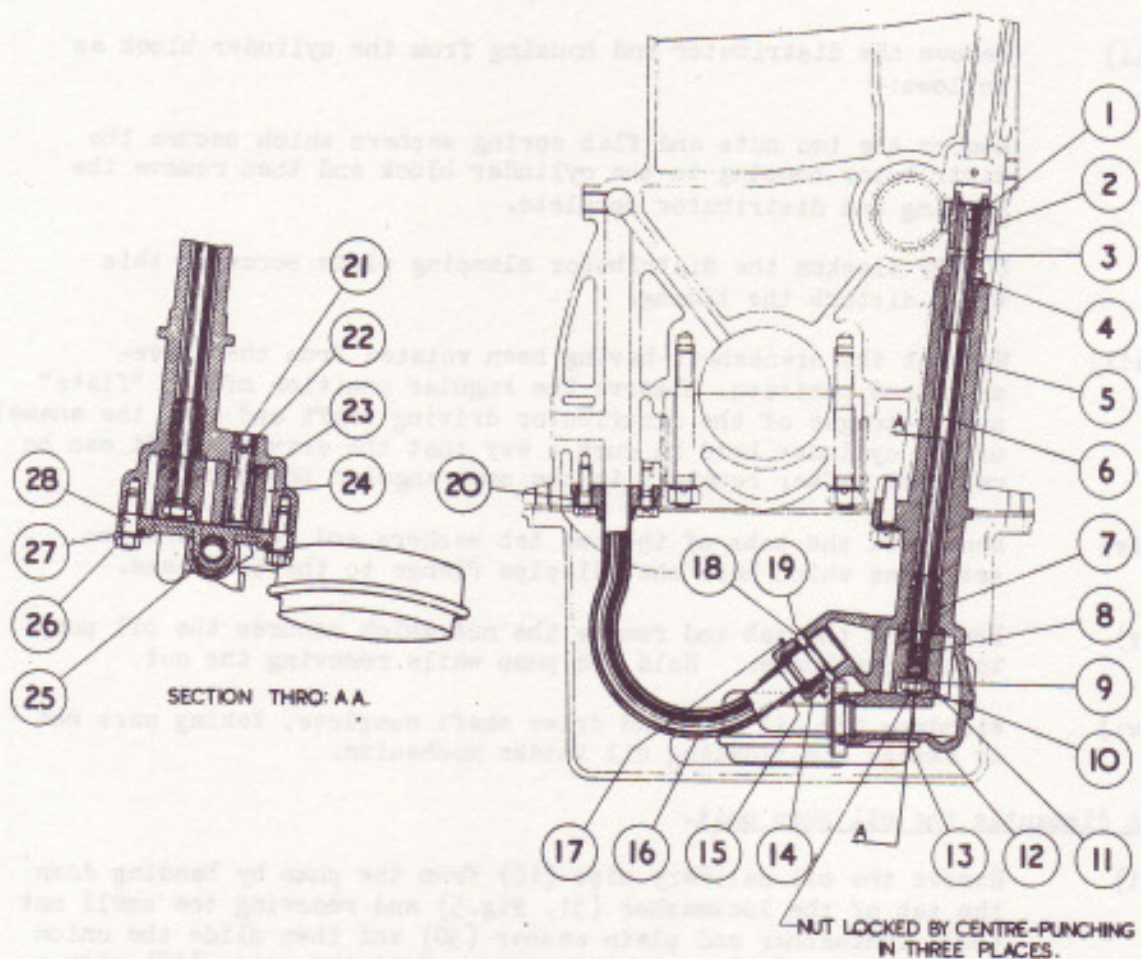
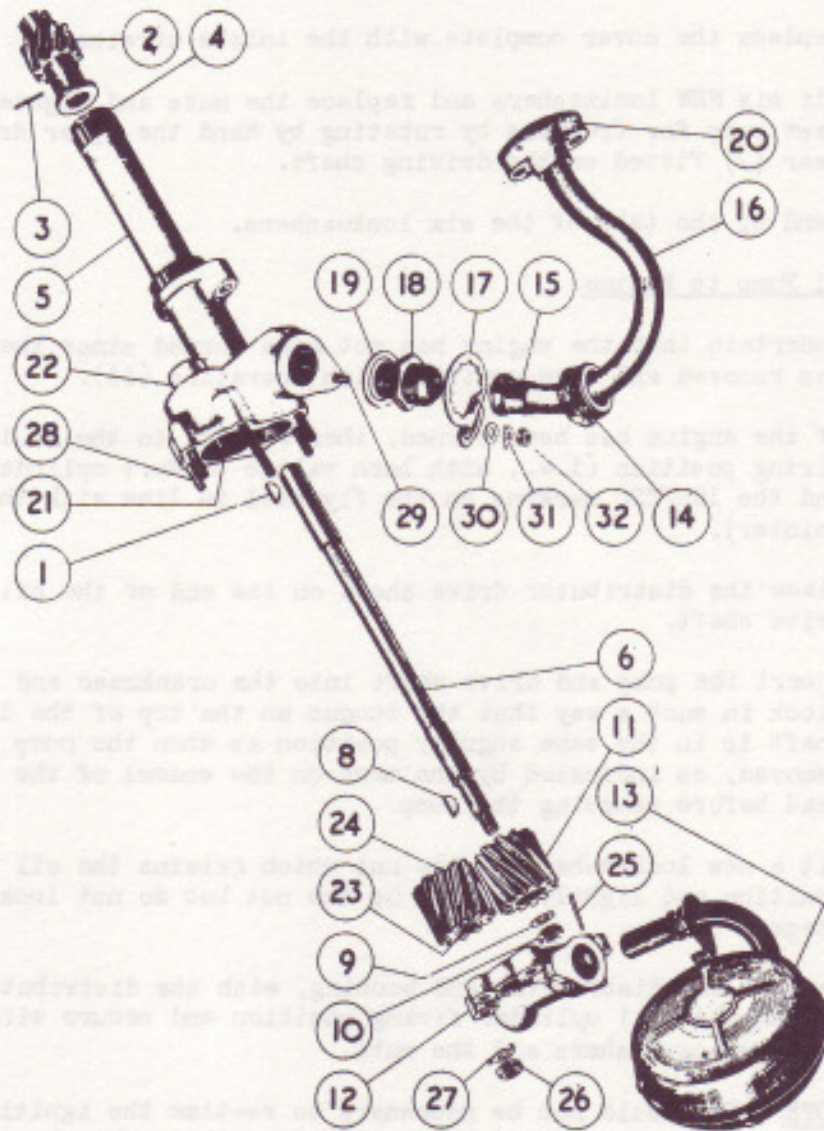

FIG. 4. SECTION THROUGH OIL PUMP AND DRIVE
FIG. 5. OIL PUMP AND DRIVE DISMANTLED.
A floating strainer (13, Figs. 4 and 5), consisting of a wire screen fixed to the lower face of a sheet metal dome with a sealed air compartment, is attached to the inlet on the oil pump cover (12).
The oil pump is shown in position on the engine in Fig.4, and in Fig.5 it is shown dismantled.
| 13. Pump float (Screened intake). | 29. Stud (Fig. 5 only). |
| 14. Union nut. | 30. Flain washer (Fig. 5 only). |
| 15. Nipple. | 31. Lockwasher (Fig. 5 only). |
| 16. Oil delivery pipe. | 32. Nut (Fig. 5 only). |
- (i) Remove the oil delivery pipe (16) from the pump by bending down the tab of the lockwasher (31, Fig.5) and removing the small nut (32), lockwasher and plain washer (30) and then slide the union locking plate (17) on to the pipe. Hold the union (18) with a spanner and slacken off the union nut (14) with a second spanner and remove the pipe.
- (ii) Bend down the tabs of the lockwashers (27) and remove the six nuts (26) and then take off the oil pump end cover (12) complete with the floating intake strainer (13).
- (iii) Remove the driven oil pump gear (24). (This will fall out if the pump is inverted).
- (i) Slacken off the union nut of union 13, (Figs. 5 & 6) holding the union with one spanner while slackening the nut with a second spanner. (This is necessary in order to avoid twisting the pipe). It will be advisable to slacken off a few turns the cap nut as fitted to the side of the "General" By-Pass Filter so as to partially free the oil pipe.
- (ii) Unscrew the "banjo" connection bolt (5) and remove together with the two joint washers (6).